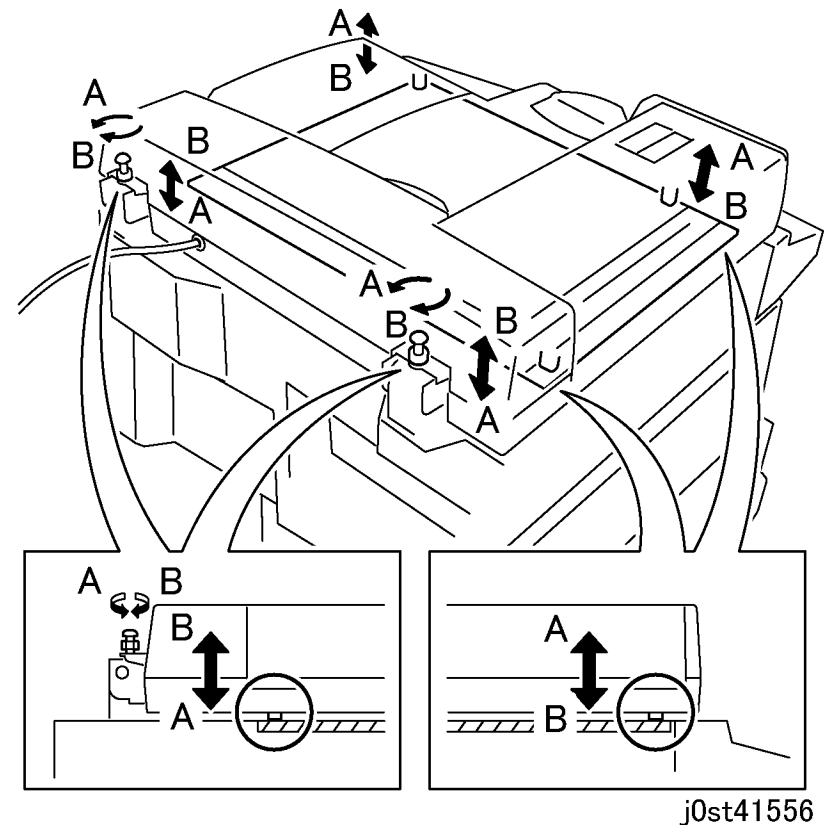

Figure 2 Adjusting the DADF Height
1. Loosen the nut of the Left/Right Counter Balance and turn the screw to adjust the height and slant of the DADF. (Figure 2)